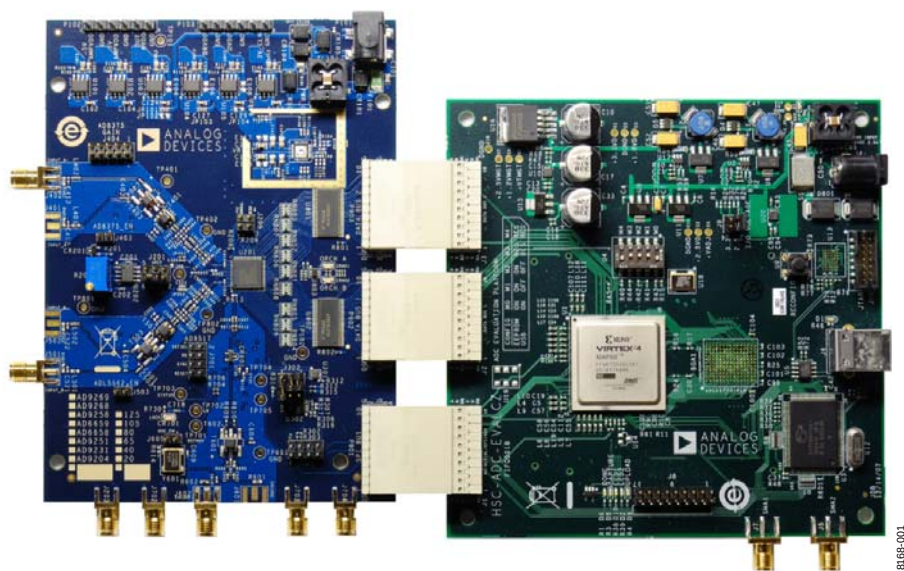
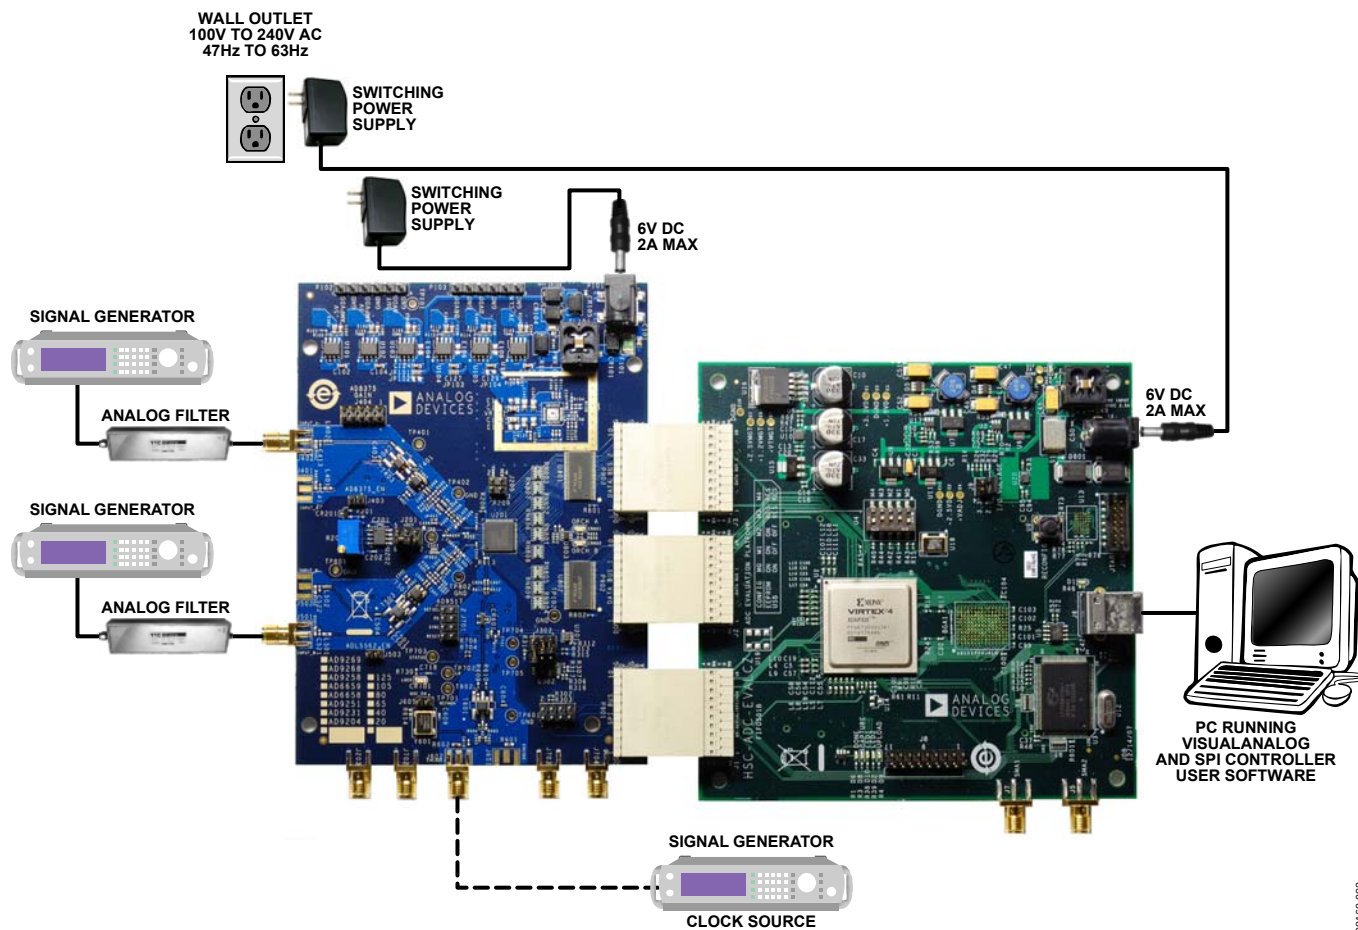

Figure 1. AD9268 and AD9251 Family Evaluation Board and HSC-ADC-EVALCZ Data Capture Board
Figure 2. Evaluation Board Connection
The AD9268, AD9258, AD9251, AD9231, and AD9204 evaluation board provides all of the support circuitry required to operate these parts in their various modes and configurations. Figure 2 shows the typical bench characterization setup used to evaluate the ac performance of the AD9268, AD9258, AD9251, AD9231, or AD9204. It is critical that the signal sources used for the analog input and clock have very low phase noise (<1 ps rms jitter) to realize the optimum performance of the signal chain. Proper filtering of the analog input signal to remove harmonics and lower the integrated or broadband noise at the input is necessary to achieve the specified noise performance.
1. Connect the evaluation board to the data capture board, as shown in Figure 1 and Figure 2.